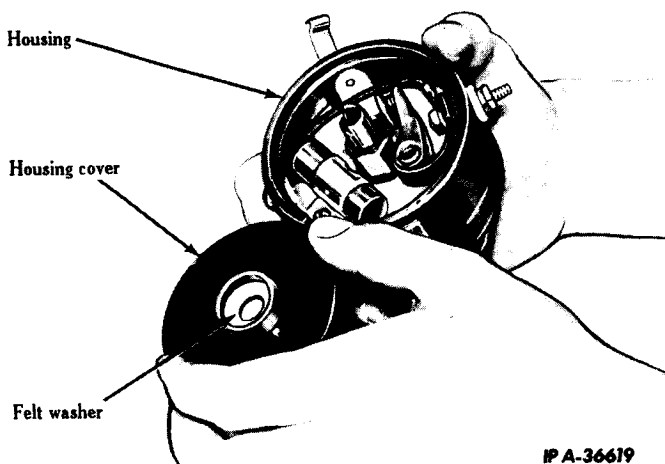

Fig. 3 - Removing Distributor Rotor (IH Model K Shown, Others Similar).
5. Remove the distributor rotor (Fig. 3).